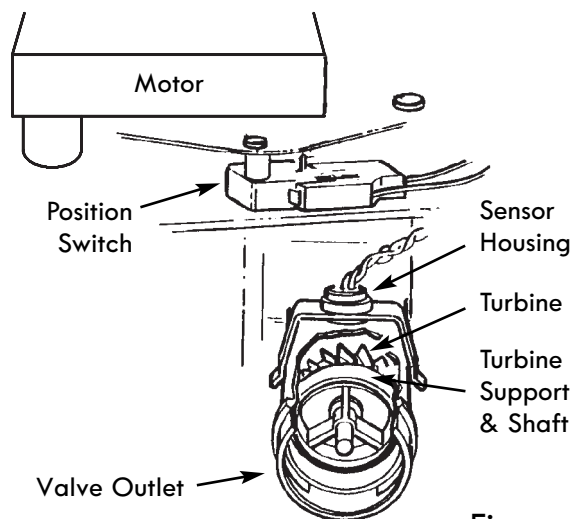

Figure 39
**TURBINE OPERATION:** If no water is flowing through the softener, the turbine indicator displays three zeros. When water is flowing, a 000 to 199 count repeats for each gallon of water passing through the turbine. To check for positive operation of the turbine if zeros are shown, open a nearby soft water faucet and observe the turbine count. If you don't get a reading in the display with faucet open, pull the sensor housing from the valve outlet port (see Fig. 39). Pass a small magnet back and forth in front of the sensor. You should get a reading in the display. If you get a reading, unhook the inlet and outlet plumbing and check the turbine for binding.